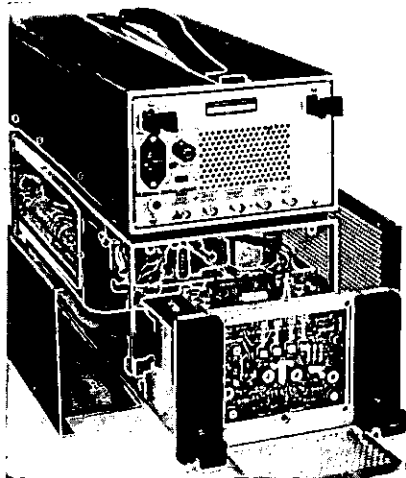

Figure 4. Power supply module can be operated outside the mainframe to facilitate maintenance.
2. Mainframes in the 180 System have a reliable LVPS which, when repair may be required, can be removed from the instrument in a fully operating status; refer to figure 4. Repair or calibration time is greatly reduced.